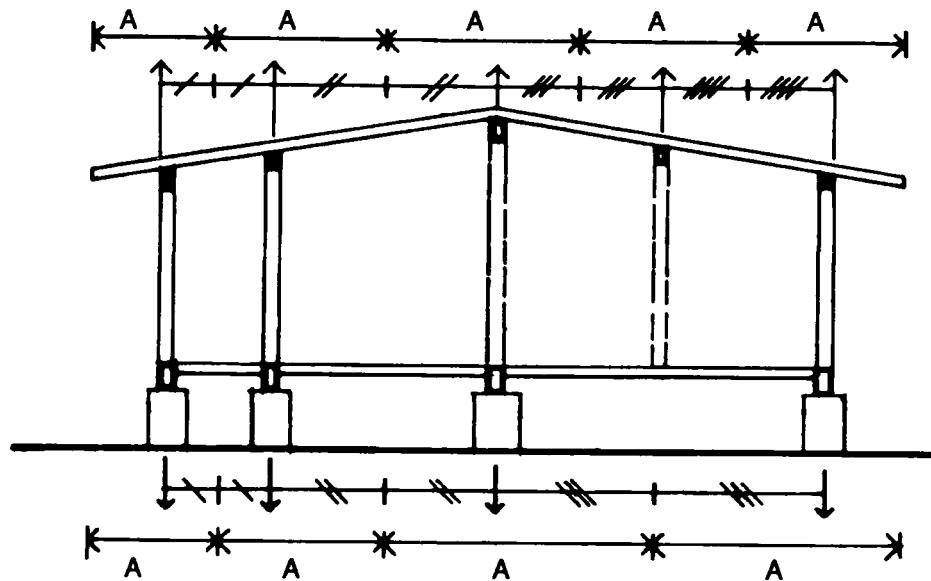

FIGURE B10.3(A) DIMENSION 'A' - RAFTERED ROOF
- (i) From Fig. B10.3(A) determine the appropriate dimension 'A' for the member or joint considered.
The uplift forces on roof beams, lintels, verandah beams and verandah posts are determined from Tables B10.9.1 to B10.9.4. The dimensions 'A' and 'S' required for using the tables are shown in Figures B10.3(A) and B10.9(A). For typical tie-down details and design strengths refer Figure B10.9(B) to B10.9(D).